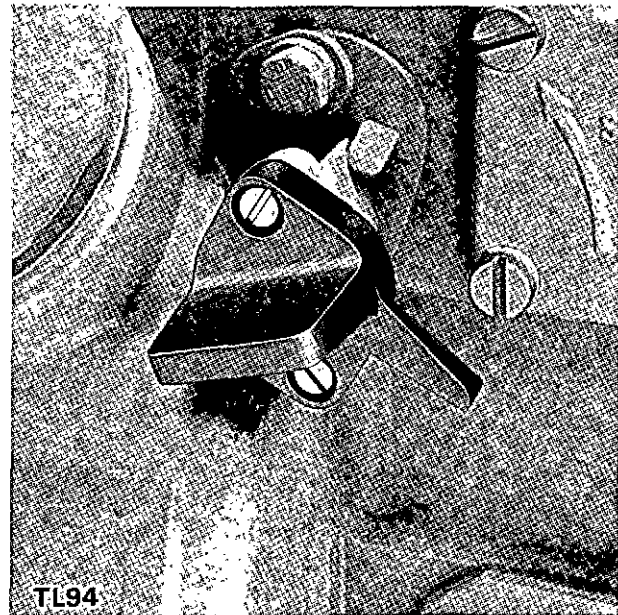

Fig. 3a Plastic covered stopping control.
**WARNING: AFTER PROLONGED RUNNING THE STOPPING CONTROL MAY WELL BE HOT, USE SUITABLE PROTECTION FOR THE HANDS WHILST OPERATING THE CONTROL. ON LATER ENGINES A PLASTIC COVERED CONTROL IS FITTED. (See Fig. 3a).**